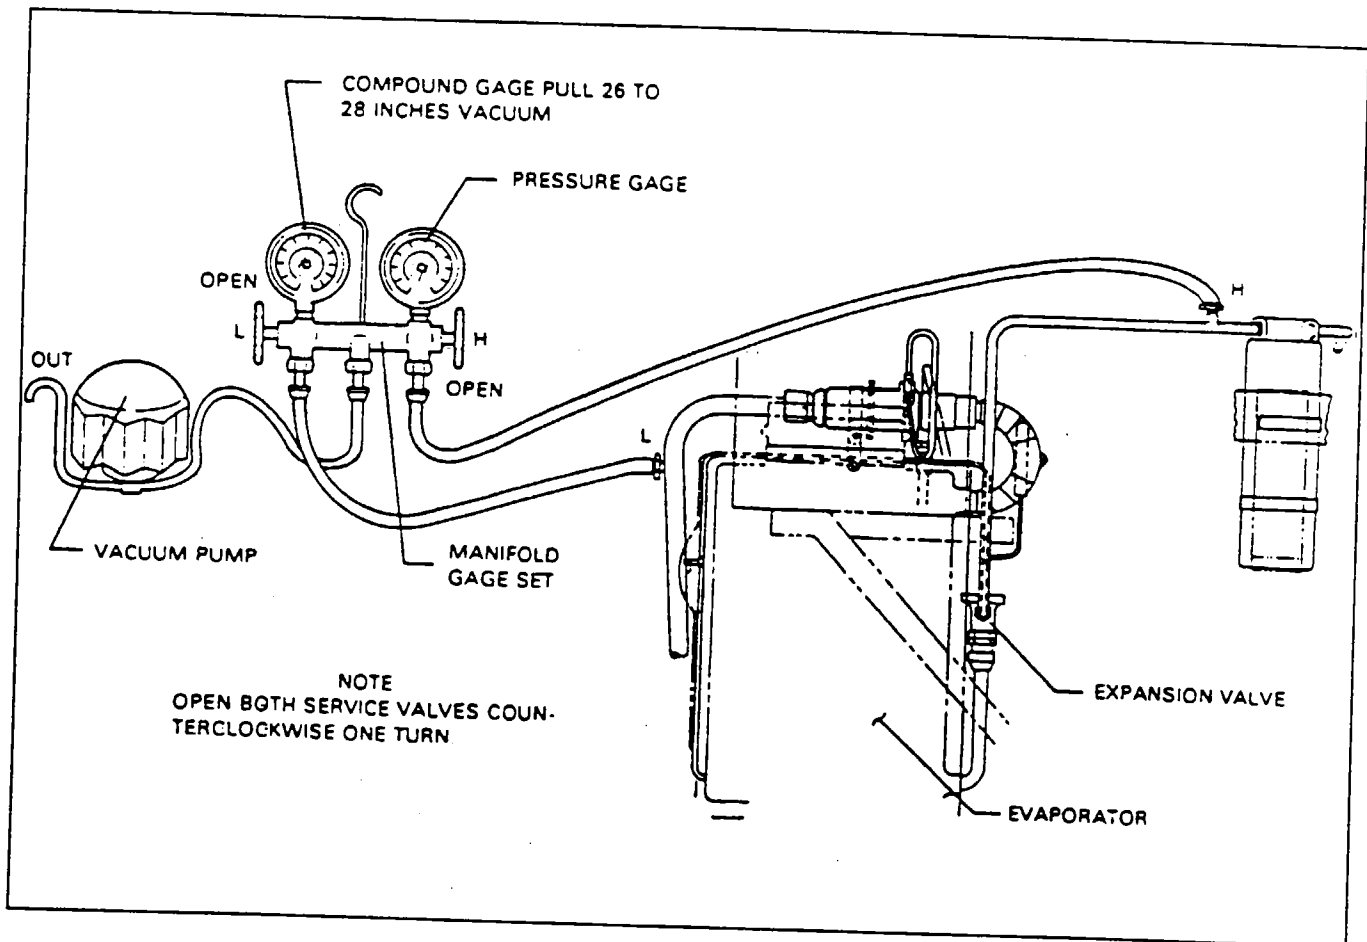

Figure 21-24. Evacuation Hookup
2. Connect the manifold gauge set to the airplane service valves. (Refer to Figure 21-24.)